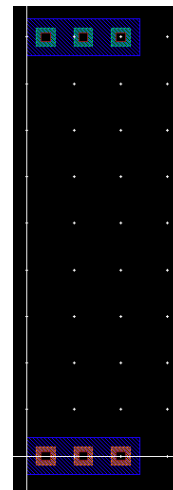

Figure 9: Well and substrate contacts
- Wire the two gates together and **create** ports on inputs **a** and **b** and output **y** as shown in Figure 9. Name the wire between the two gates. In Figure 9, we named it **yb**.